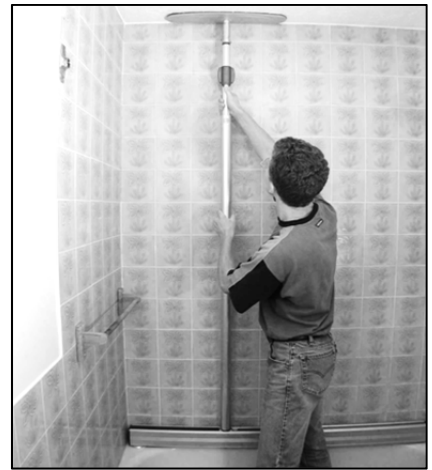

Figure 13
13. Extend the post quickly towards the ceiling by pulling the top portion and holding the bottom portion. The post should be within 76 mm / 3" to touching the ceiling (see Figure 13).